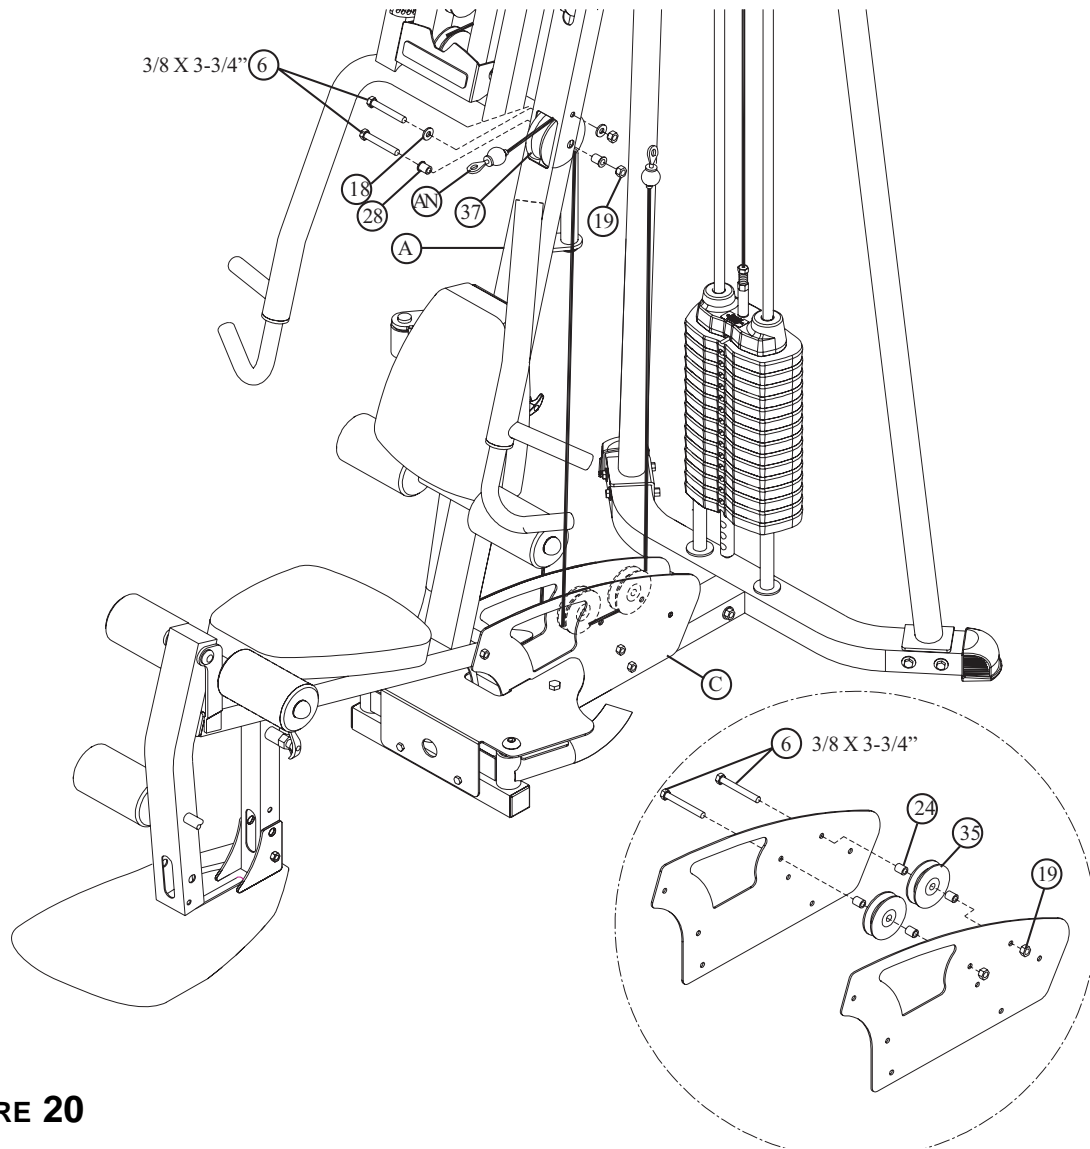

FIGURE 20
- Route the large ball end of the LOW CABLE (AN) around one V- PULLEY (37) and assemble the PULLEY to the FRAME (A) using two 3/8 X 3-3/4" BOLTS (6), two 1/2" FLANGE SPACERS (28), two 3/8" WASHERS (18) and two 3/8" SILVER LOCK NUTS (19) as shown in FIGURE 20.
- Route the small ball end of the LOW CABLE (AN) through the BASE PLATES (C) and assemble two 3-1/2" PULLEYS (35) to the BASE PLATES (C) using two 3/8 X 3-3/4" BOLTS (6), four 1" SPACERS (24) and two 3/8" SILVER LOCK NUTS (19). See FIGURE 20.